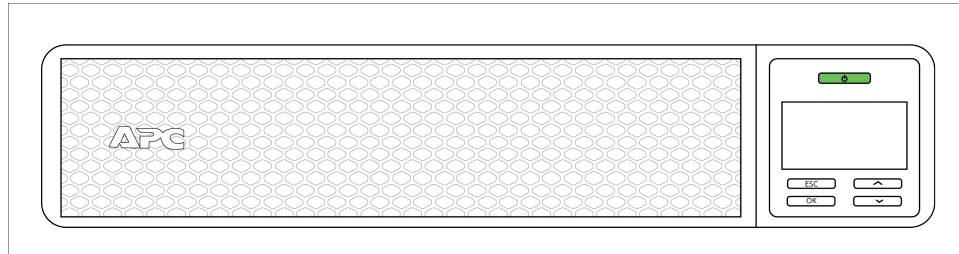

Figure 6-63. Turning on the APC UPS
3. Turn on the APC UPS (Figure 6-63):